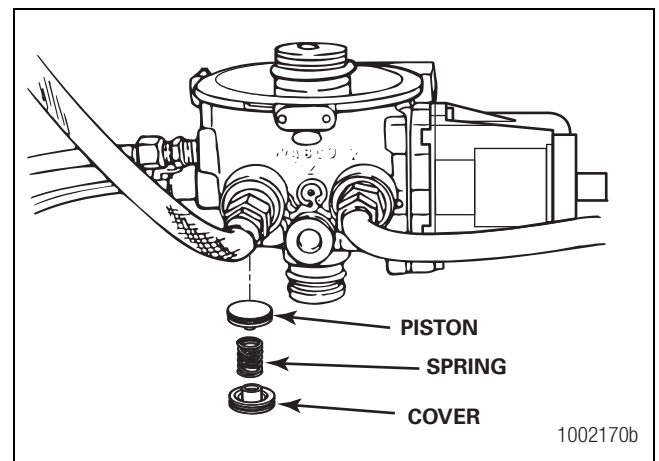

Figure 2.8
3. Use needle nose pliers to remove the piston. Figure 2.8.
4. Clean and inspect the valve bore. If the bore is damaged so that a tight seal cannot be maintained, replace the air dryer. Figure 2.8.